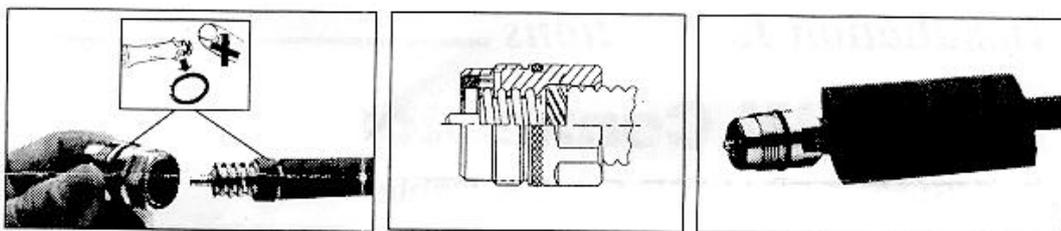

Figure C-6 Screwing fixing nut onto cable
- 8) Apply grease and mount fixing nut. Place the heat-shrink tube into the cable and then screw the fixing nut to the cable until it is tight, as shown in Figure C-6.